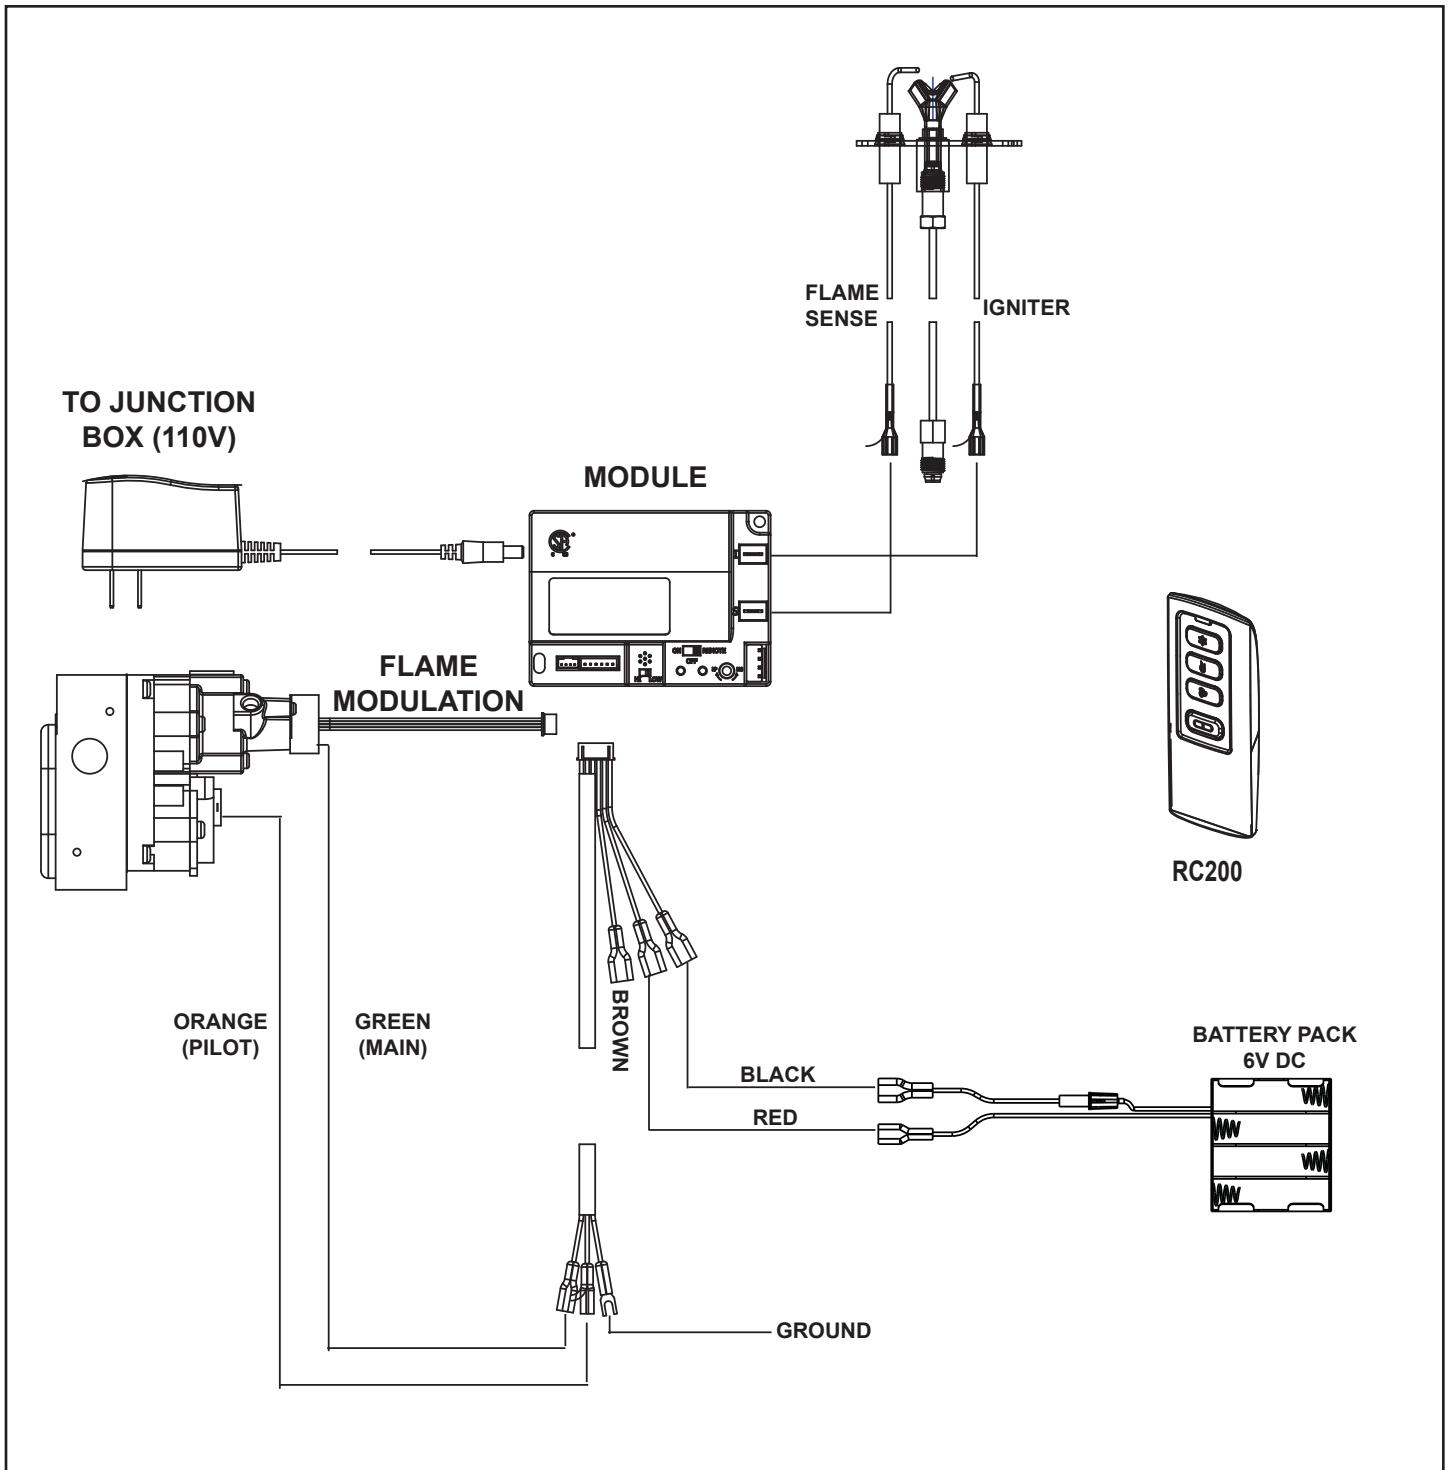

Figure 8.2 Intellifire Plus Ignition (IPI) Wiring Diagram
- Refer to Figure 8.2, IPI Wiring Diagram.